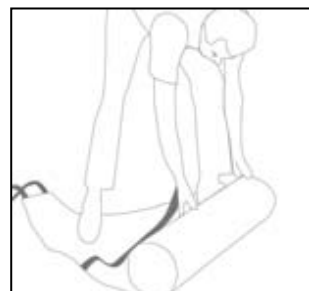

Fig. 3
- Unfasten retainer strap, step on foot end of the stretcher, and unroll completely to opposite end (fig. 3).